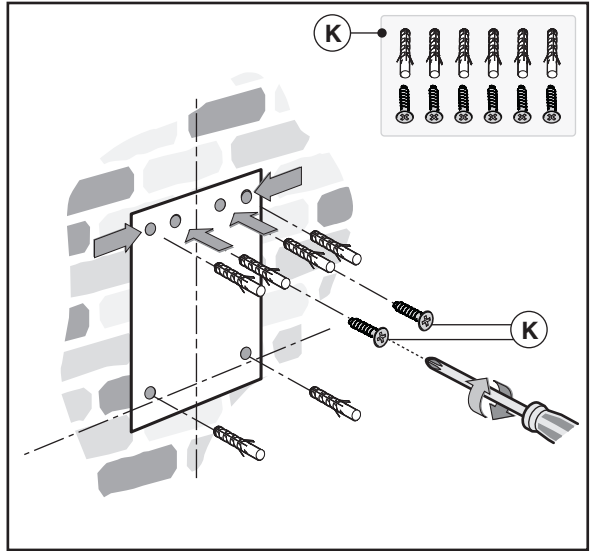

Fig.4
-Mark the fixing holes and cut them into the material (**Fig.4**).
-Fix the 2 top screws **K** and screw anchors (**Fig.4**), without tightening them completely.